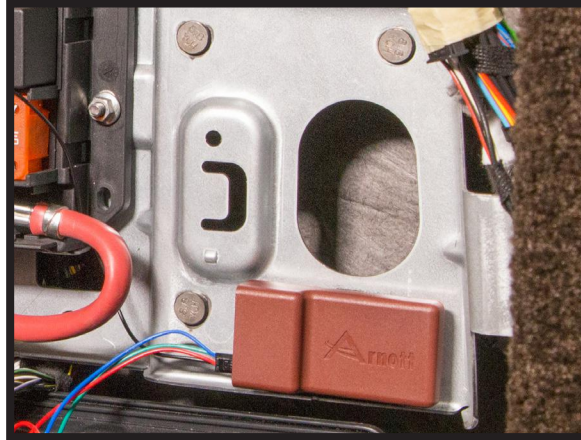

FIGURE 73
7. SECURE IN SUITABLE LOCATION. (FIGURE 73)